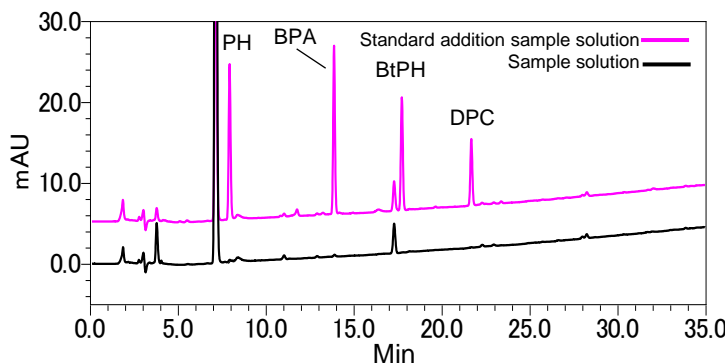

Figure 9 Chromatogram of Sample Solution
- ✓ The result of the elution test for the PC containers indicated that BPH (incl. PH and BtPH) was not detected (Figure 9, Table 6).
- ✓ When the recovery rates were determined by adding BPA, PH, and BtPH at the concentration of 0.5 µg/mL each, good results were obtained with the rates of 95.5-100% (Figure 9, Table 6).